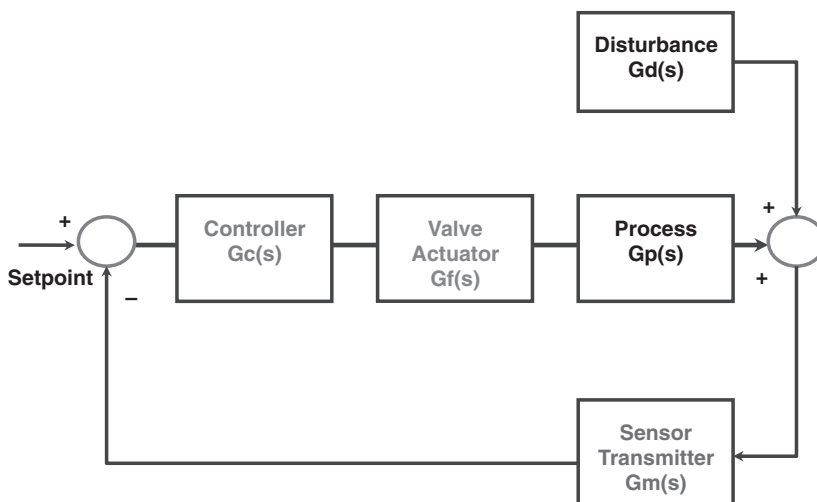

Figure 1.3 Feedback loop block diagram.
Basic to any discussion of control loops is feedback control. In this control, the loop starts by measuring the process variable (PV). It then compares the PV to the desired value, the set point (SP), and acts on the difference between the SP and PV (error) using a control algorithm (typically proportional-integral-derivative [PID]). The loop then outputs to the final control element. Figures 1.3 and 1.4 indicate that the main elements of the control loop are as follows:
Control system engineers use the block diagram in Figure 1.3 to show the relationships of the control loop elements. In Figure 1.3, the “G-(s)” symbols represent transfer functions, which are
For the purposes of this guide, we'll focus on the single-input, single-output control loop depicted in Figures 1.3 and 1.4.